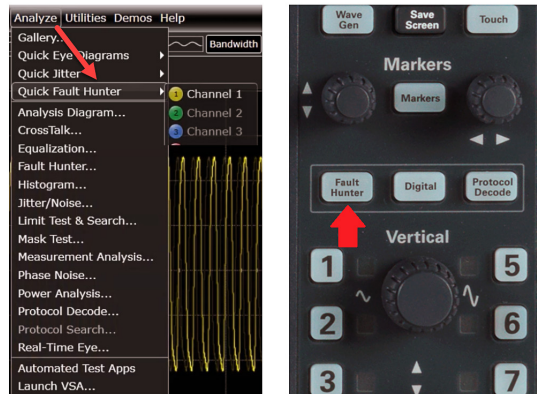

Figure 2. Using an EXR-Series oscilloscope, select Fault Hunter from the Analyze menu (at left) or use the front panel shortcut key (at right)
1. Start by pressing the Quick Fault Hunter key on the front panel; see Figure 2. Fault Hunter runs a quick 30-second statistical analysis on a normal signal to determine the mean and standard deviation of waveform measurements. Fault Hunter automatically locates problem signals by triggering and flagging a signal that falls outside the set thresholds before beginning the next test.